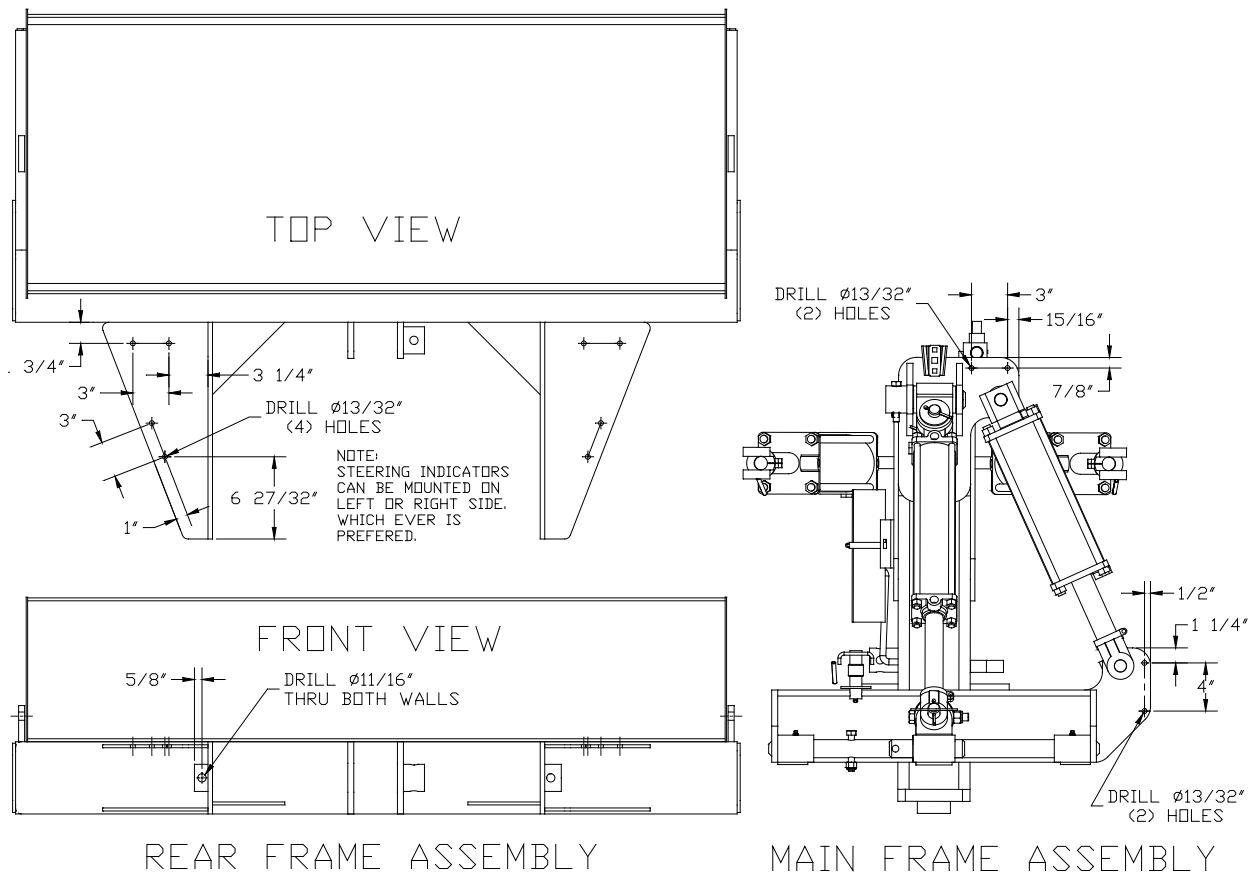

Figure 3. Rear Steer Grader Kit New Hole Locations for Indicators.
- Drill holes in Main Frame Assembly and Rear Frame Assembly as shown in figure 3.